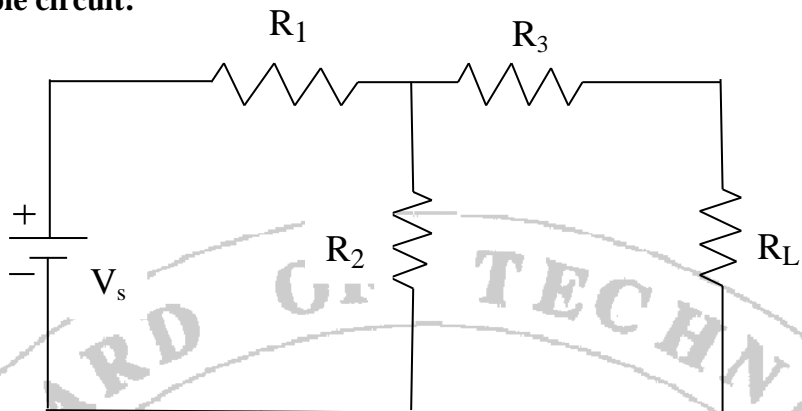

Fig 8.1: Sample circuit
2. In the above circuit shown in figure 8.1 calculate current in load resistor  $R_L$  using Norton's theorem.